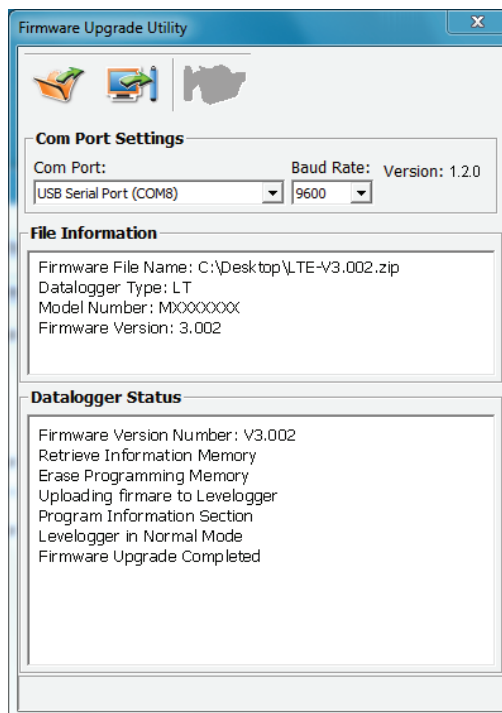

Figure 12-1
- 5) If a communication error occurs and is indicated in the Levelogger Information Window (Figure 12-1) either before the 'Verified Program Checksum' message or after the 'Program Information Section', then restart the upgrade process.